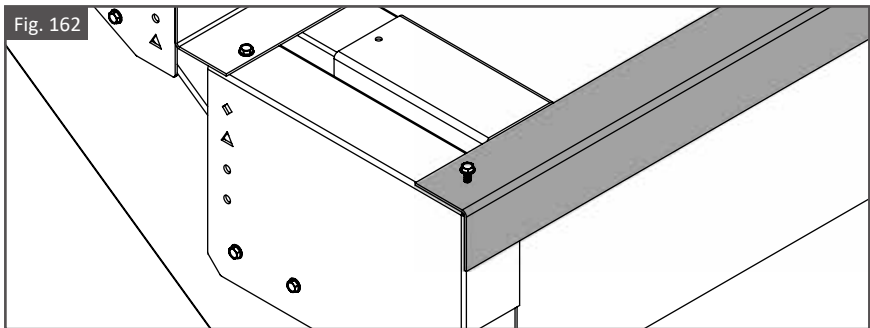

Fig. 163
7. Pre-drill concrete, then use 3/8" x 3" [10mm x 76mm] Concrete Anchor Bolts to fasten Stair Anchor Brackets onto concrete footing surface. As shown in Fig. 163.